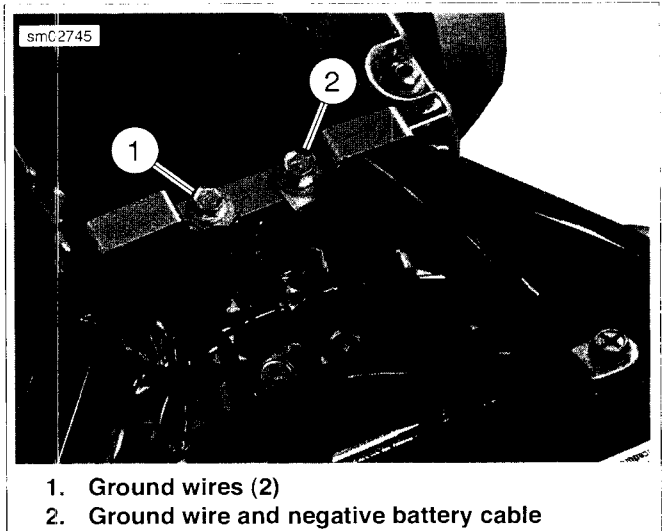

Figure 7-88. Ground Wires and Negative Battery Cable
7. See Figure 7-88. Attach ground wires to frame in front of battery. Negative battery cable attaches to right side post (2). See 7.12 BATTERY CABLES.